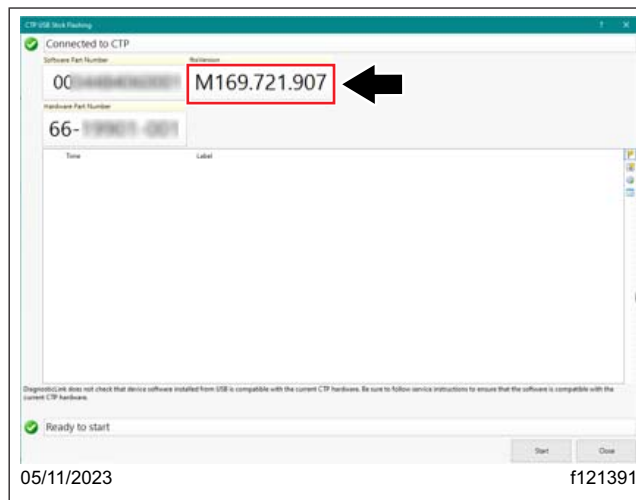

Fig. 33, Verifying the fbsVersion in the CTP USB Stick Flashing Window
18. Once the CTP01T connection turns green in the 'Connections' window, go to 'Actions' in the menu bar, select 'Telematics', then select 'CTP USB Stick Flashing.' Verify the 'fbsVersion' is '169.721.907.' **See Fig. 33.** If the 'fbsVersion' does not match updated version '169.721.907,' disconnect the CTP01T and connect again. Then verify the 'fbsVersion' again.